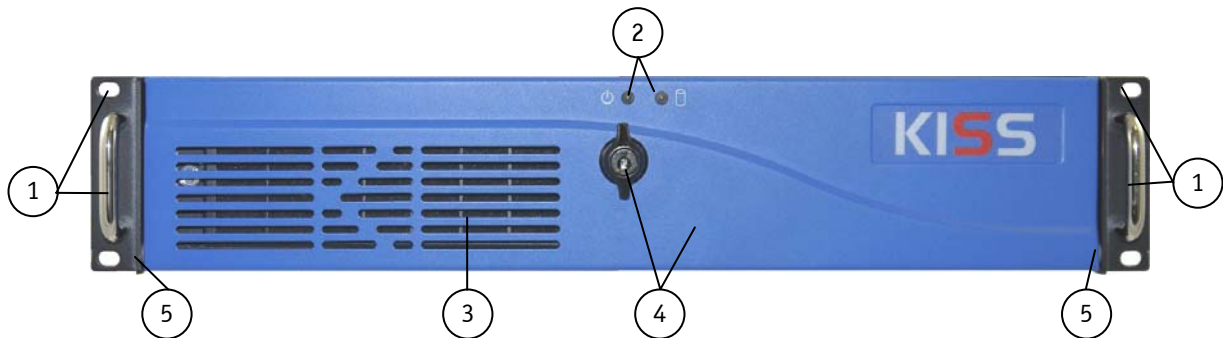
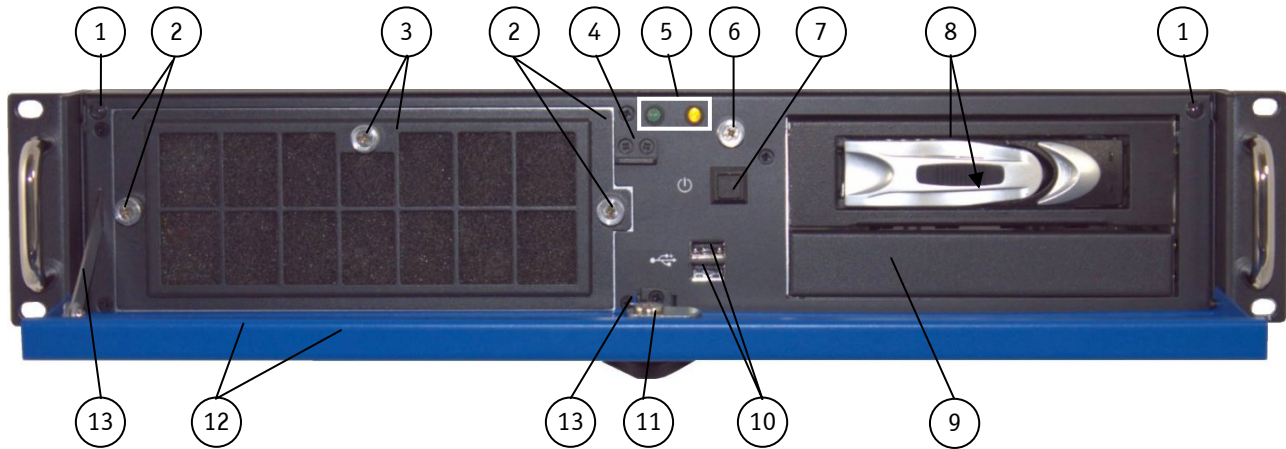

Fig. 7: Front (rackmount version) with the front access panel closed
Fig. 9: Front (rackmount version) with the front access panel open
The Power button, the USB ports and the integrated 5.25" drive are located on the front side (Fig. 9) of the KISS 2U V2 platform, behind the front access panel.
The power button (refer to Fig. 10, and Fig. 9, pos. 7) is located at the front side of the platform, behind the front access panel and allows to power ON/OFF the system. Please observe the settings option for "Restore on AC Power Loss" in the BIOS Setup.
Turning the power off using the power button (refer to Fig. 9, pos. 7) does not disconnect the KISS 2U V2 platform from the AC power source.
AC wide range PSU: Please observe that the ON/OFF switch of this PSU (see Fig. 20) does not disconnect the KISS 2U V2 from the AC power source. Even you turn off the system using the power button (Fig. 9, pos. 7), and the ON/OFF switch of this PSU, there is still a standby-voltage of 5 Vsb on the motherboard or SBC (refer also to the hint in the subsection 7.2.4).
The LED indicators (refer to Fig. 9, pos. 5 and Fig. 11) of the KISS 2U V2 are located at the front of the device, behind the front access panel.
KISS 2U V2 is equipped with two USB (2.0) ports on the front (Fig. 9, pos. 10 and Fig. 12). You can connect various USB devices to these two USB 2.0 interface connectors.
The securing lock mechanism (Fig. 7, pos. 4) located at the access panel allows you, if required, to protect your system from unauthorized use. When the access panel is locked, the cover of the KISS 2U V2 system can not be removed, and the drives, filter mat holder and power button are not accessible.
The cover fastening screw (Fig. 9, pos. 6) secures the cover to the chassis on the front side.
- ☐ The cover fastening screw (Fig. 9, pos. 6) on the front side
The filter mat and the filter mat holder (Fig. 9, pos. 3) are located behind the air grilles of the front access door (Fig. 7, pos. 3, pos. 4). The filter mat holder is fastened to the fan slide-in module (Fig. 38, pos. 4) by a knurled screw (Fig. 38, pos. 5). The filter mat is inserted in the filter mat holder (Fig. 34). This filter mat protects your system against dust and dirt (see section 10.2 "Cleaning the Filter Mat").
The two system fans are integrated in a user-friendly, replaceable fan slide-in module (see subsection 7.2.6 "Fan Slide-In Module and Temperature Sensor"). The fan slide-in module (Fig. 9, pos. 2) can be replaced as described in the section 10.1 "Replacing System Fans".
Depending on the ordered system configuration, your KISS 2U V2 can be equipped with up to two drive bays (see (Fig. 9, pos. 8 and 9; configuration with an internal HDD):
Drive Bay	Description (refer to Fig. 9)